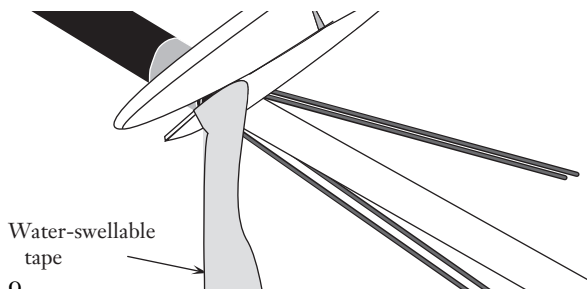

Figure 9
4.11 Using scissors, cut the water-swappable tape flush with the end of the sheath and the tape wrap (Figure 9).